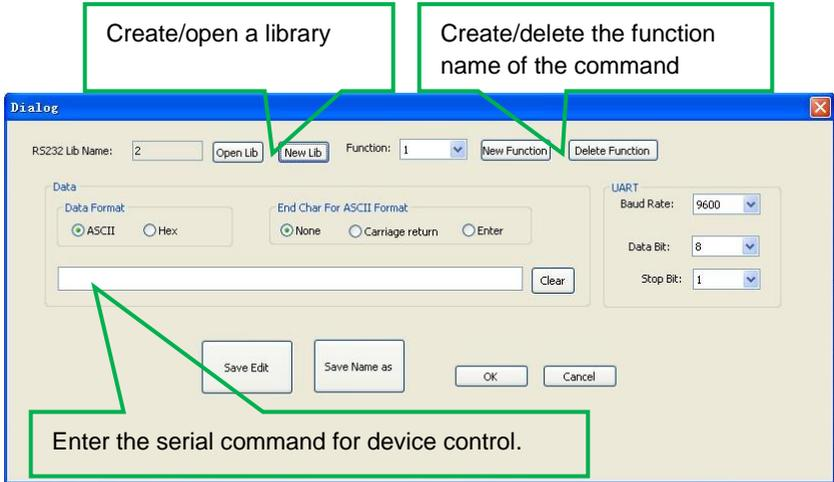

Figure 17 RS232 Library file
- 1) First select the action to be assigned this event. The RS232 data for the event can be entered directly or selected from a library. Click “Change Lib” to select a library file and open it. Click “Edit Lib” to open the window in Figure 17 in order to create or edit a library file.